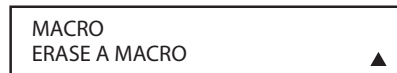

Figure 145.
3. At the next menu screen (**Figure 145**), press the **Navigation Button**  until the bottom line in the remote's LCD reads **ERASE A MACRO**. Press the **Set Button**  to begin the process of erasing a macro.